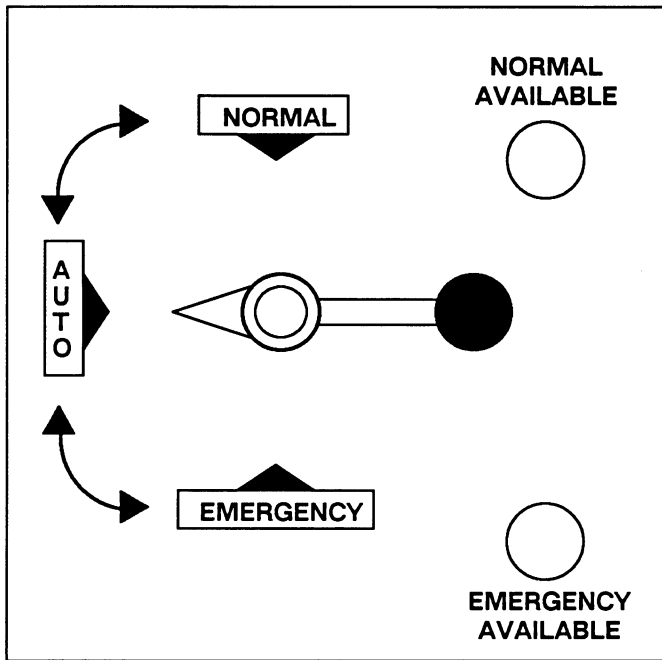

Figure 10. 150-400 Amp Bypass Handle.
1. Note which "Load Connected To" lamp is on (Normal or Emergency). This is the position of the Automatic Transfer Switch (see Figure 10. and 11.).